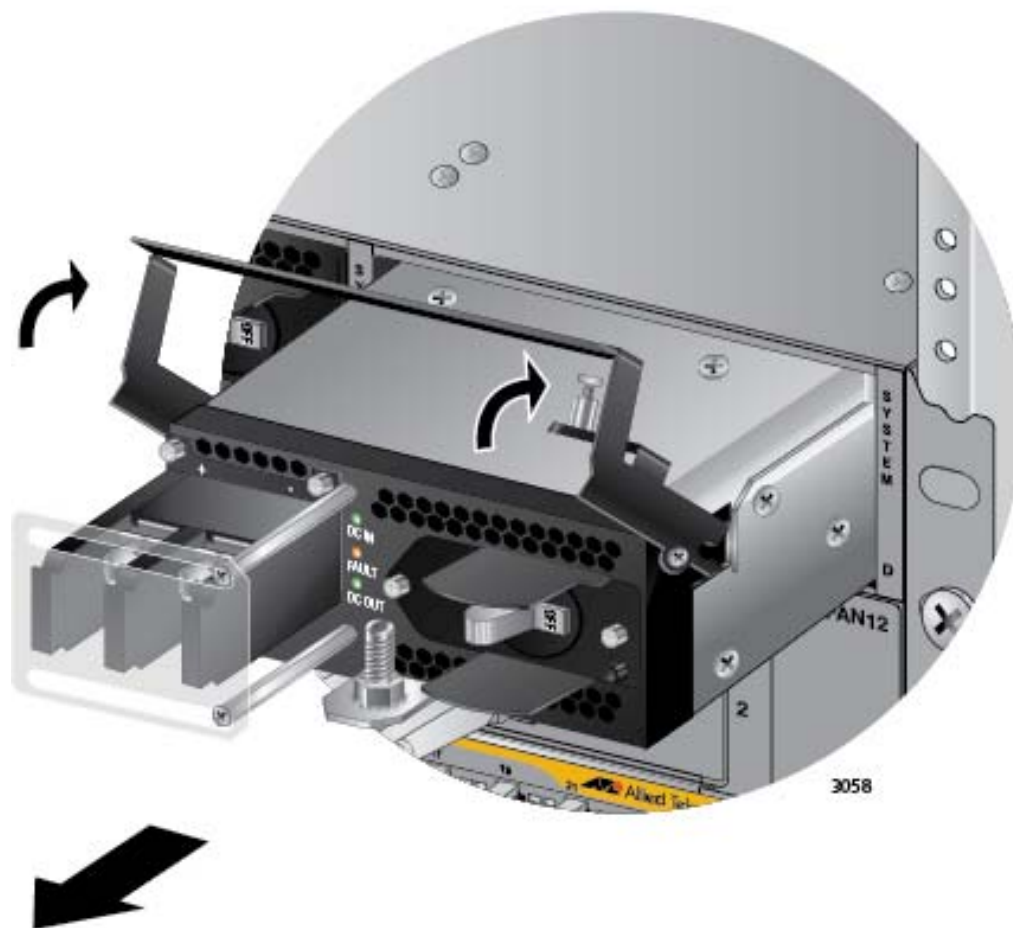

Figure 166. Lifting the Locking Handle and Removing the Power Supply
11. Lift the locking handle and slide the power supply from the chassis. Refer to Figure 166 on page 266.